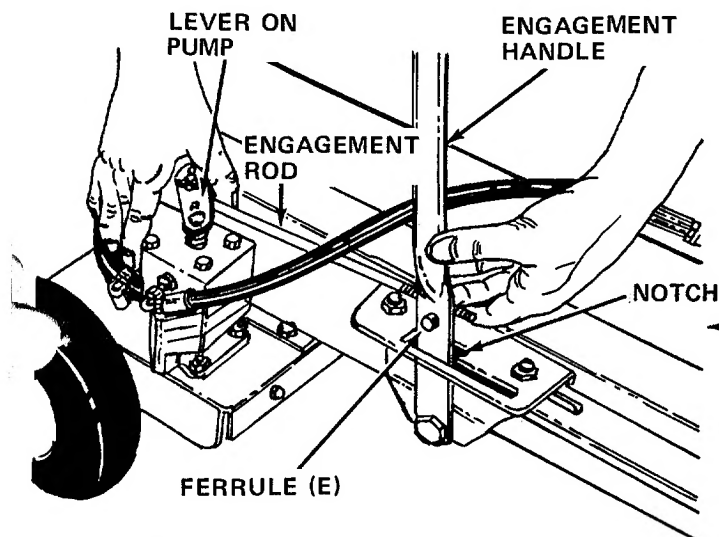

FIGURE 8
10. Place the engagement handle in the notch in the slotted bracket (Reverse position). See figures 8 and 11. Thread the ferrule (E) onto the end of engagement rod.
11. Push the lever on top of the pump as far toward the rear of the unit as it will go as shown in figure 8. Hold it in this position and adjust the ferrule on the engagement rod so the ferrule lines up with the hole in the engagement handle.
12. Secure the ferrule to engagement handle with flat washer (G) and hairpin cotter (F).